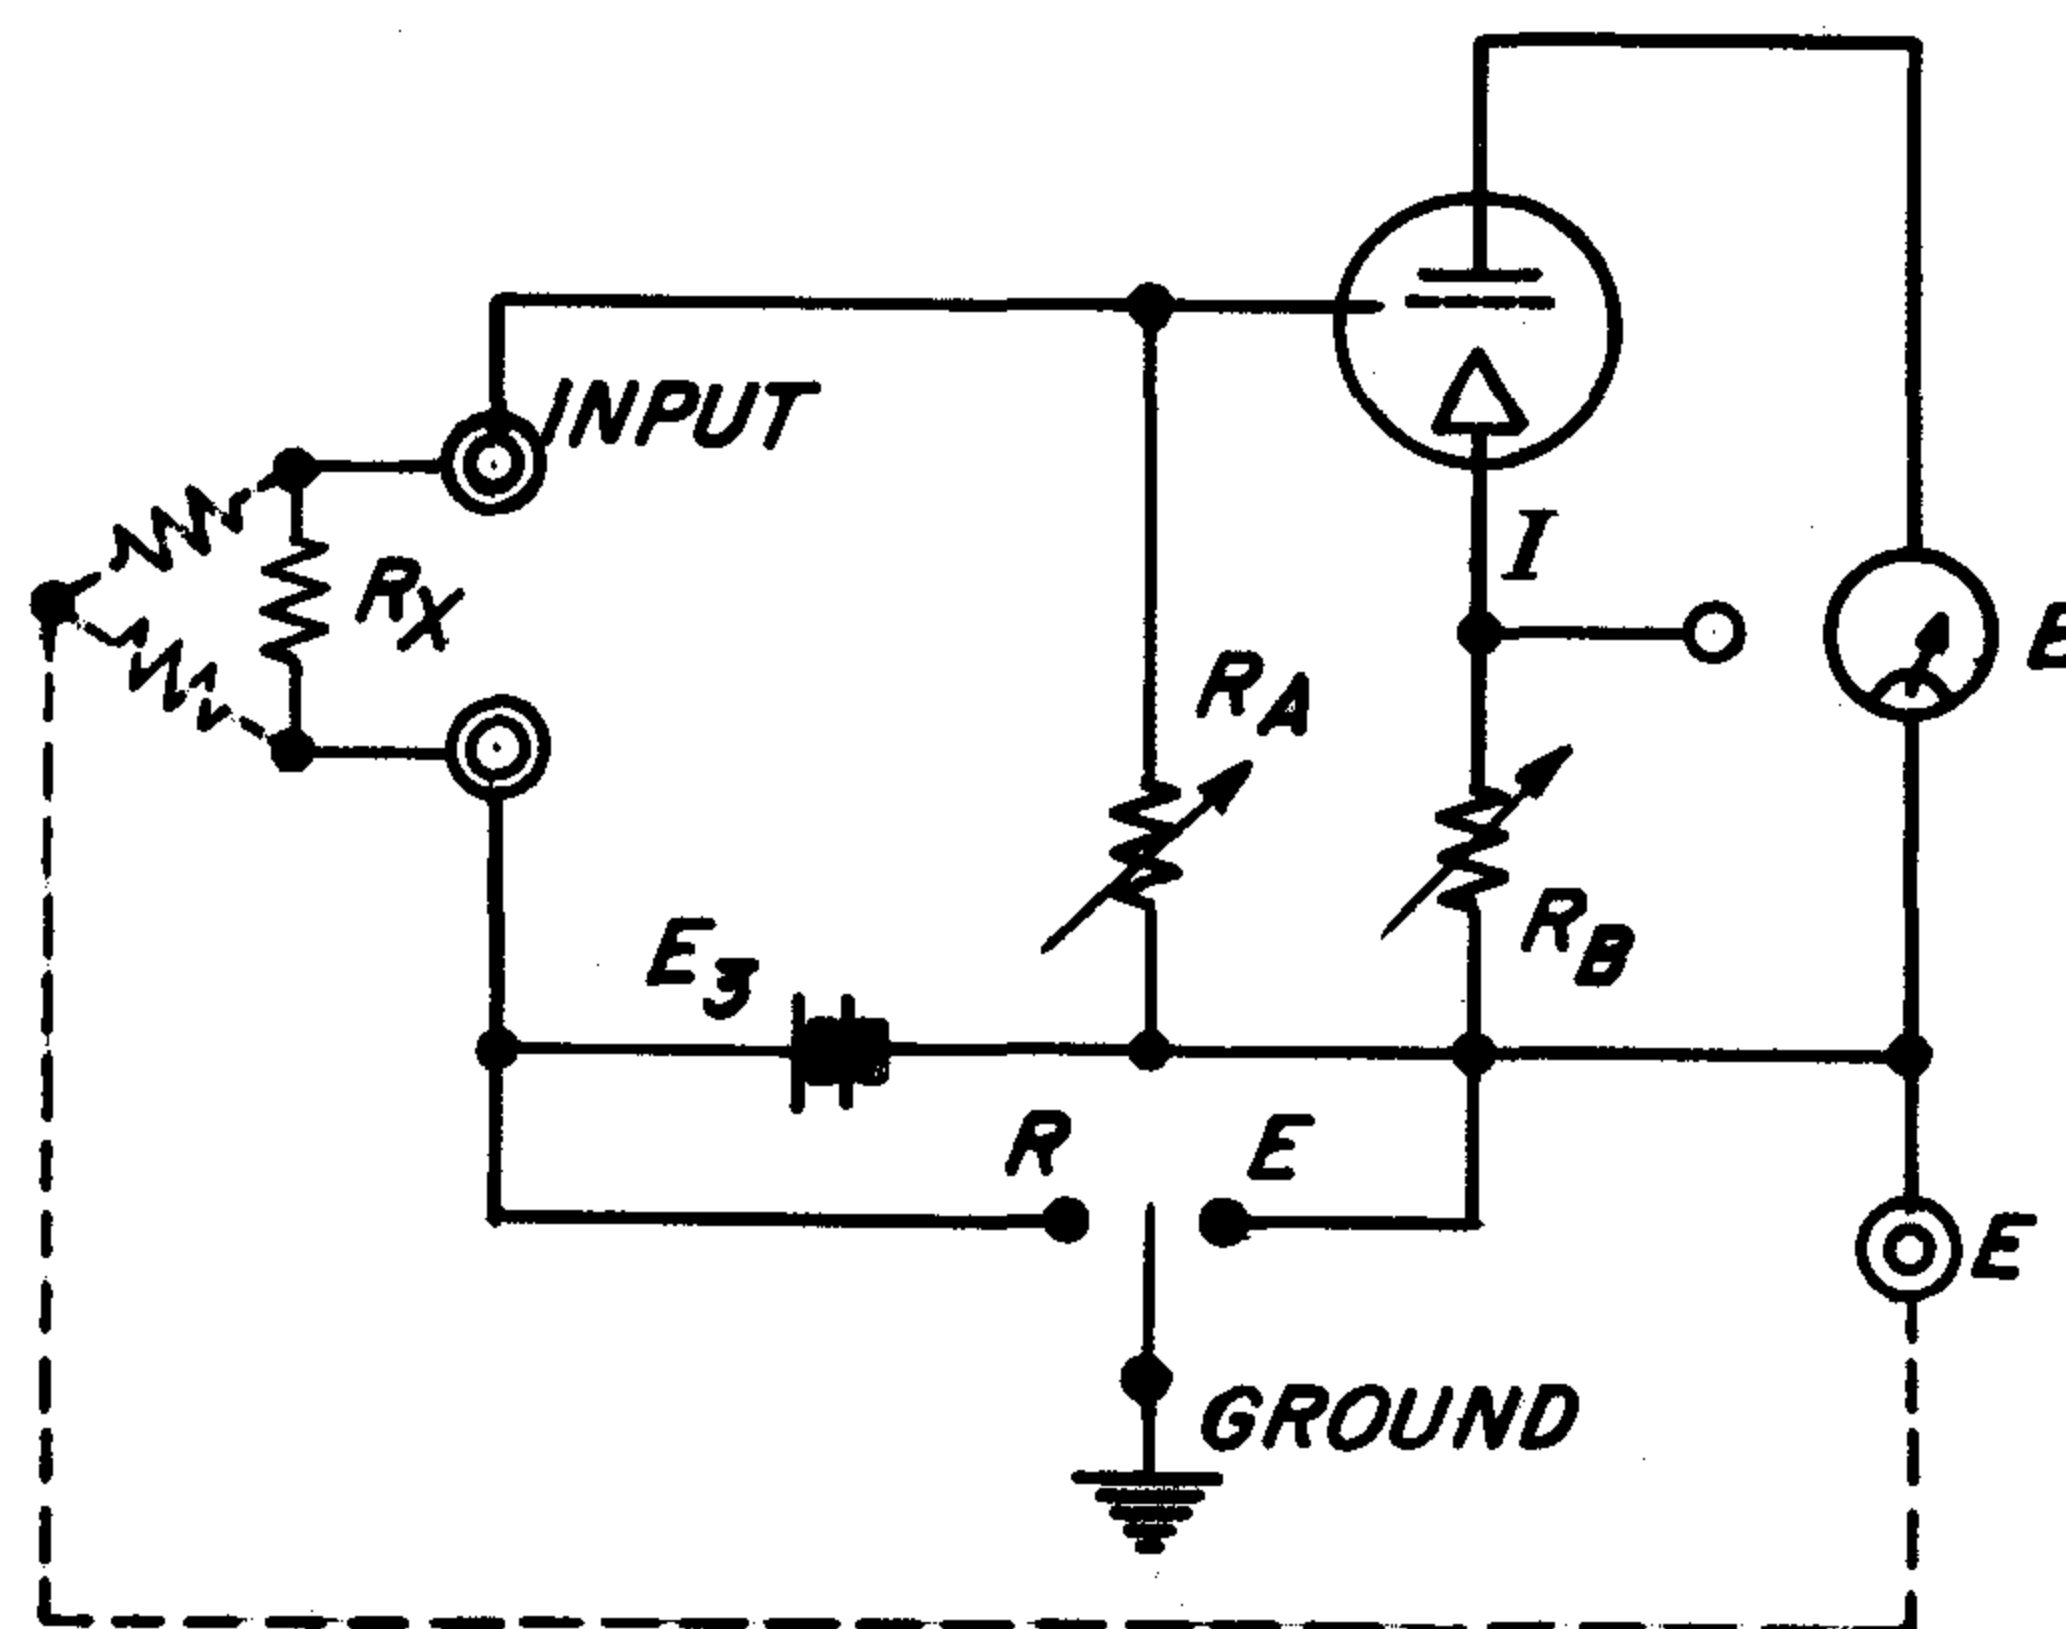

Figure 5. Resistance Measurement with Internal D-C Supply.
to R. (See Figure 5.) Instrument leakage from INPUT to ground (about 10^{14} ohms) will be across the unknown, and therefore may affect the final reading. The actual leakage value can be determined by a preliminary measurement with the unknown resistance R_x disconnected.
(2) If the unknown resistance is not grounded, and especially if small high-resistance components (that need not be grounded) are to be measured, connect the unknown from the high INPUT terminal to the R terminal and set the GROUND switch to E (see Figure 5). Instrument leakage will be across the internal resistance standard R_A and will not introduce any error. Leakage across the unknown will be nonexistent.
(3) If the unknown resistance is a three-terminal resistance, (shown dotted in Figure 5), connect the third terminal to the E terminal. Connect the other two terminals in accordance with (1) and (2) above.